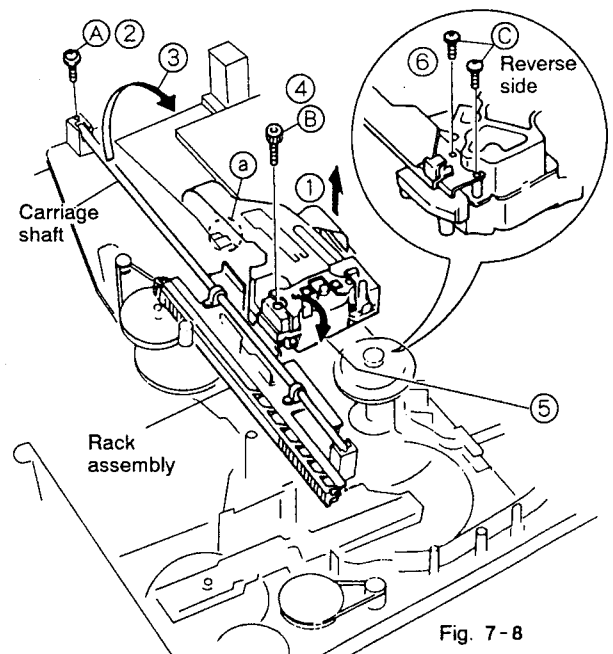

Fig. 7-8
**7.5 REMOVING THE PICKUP ASSEMBLY (Fig 7-8)**
- ① Remove the flexible cable from the connector and also remove the flexible cable installed at section (a).
- ② Remove a screw (A) holding the carriage shaft.
- ③ Raise the shaft in the direction of the arrow to remove the rack assembly.
- ④ Remove a hexagonal screw (B) and lift up the pickup assembly lightly and turn the pickup assembly in the direction of arrow (5).
- ⑤ Remove two screws (C) on the back of the pickup assembly.